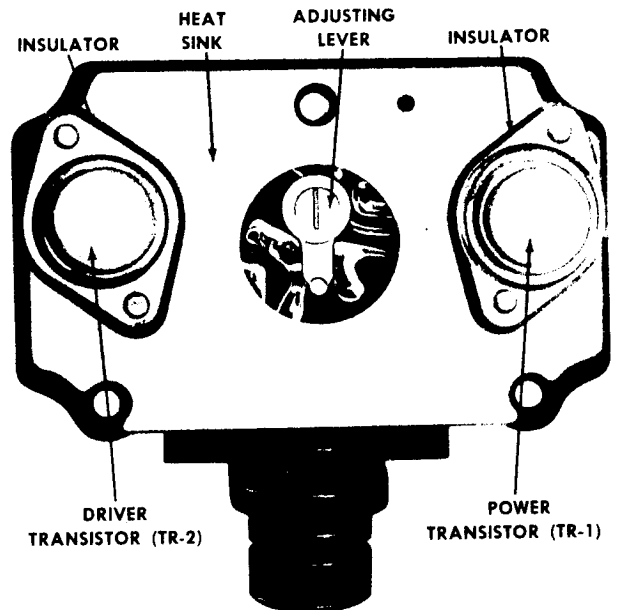
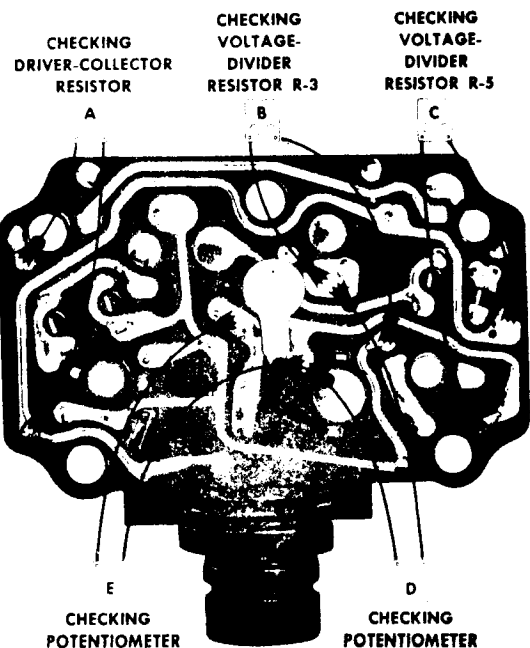

Figure 8 — Panel board and heat sink assembly.
Figure 11—Checking components.
3. To aid in reassembly, note any identifying markings on the two transistors and their respective locations on the panel board and heat sink assembly. (Fig. 8)
4. Note the insulators between the transistors and the heat sink, and the insulators separating the heat sink from the panel board. (Fig. 8)
If a component part on the panel board is found to be faulty, it should be replaced before proceeding with the remaining checks. A 25 watt soldering gun is recommended, and a 60% tin 40% lead solder should be used when re-soldering. Avoid excessive heat which may damage the panel board. Chip away any epoxy involved, and apply new epoxy which is commercially available. The component parts are identified in Figures 8 and 9, with the symbols also shown in Figure 3.
**Driver-Collector Resistor, Part A, Fig. 11:** If both readings are infinite, the resistor is open.
**Voltage-Divider Resistor R-3, Part B, Fig. 11:** If one reading is infinite or nearly infinite, or if both readings are infinite or nearly infinite, the resistor is open.
**Voltage Divider Resistor R-5, Part C, Fig. 11:** If one reading is infinite or nearly infinite, or if both readings are infinite or nearly infinite, the resistor is open.
**Potentiometer, Parts D and E, Fig. 11:** If one reading is infinite or nearly infinite in Part D, the potentiometer is open. If both readings are infinite in Part E, the potentiometer is open. **NOTE:** When installing a new potentiometer mount on the panel board, and turn the potentiometer adjustment to the middle position. Then, after all tests have been completed and the unit has been reassembled as shown in Figure 8, connect to a generator and adjust the potentiometer to 14 volts. Then, with the adjusting lever in the vertical position (Fig. 8) use a soldering iron to melt the adjusting lever into the potentiometer.